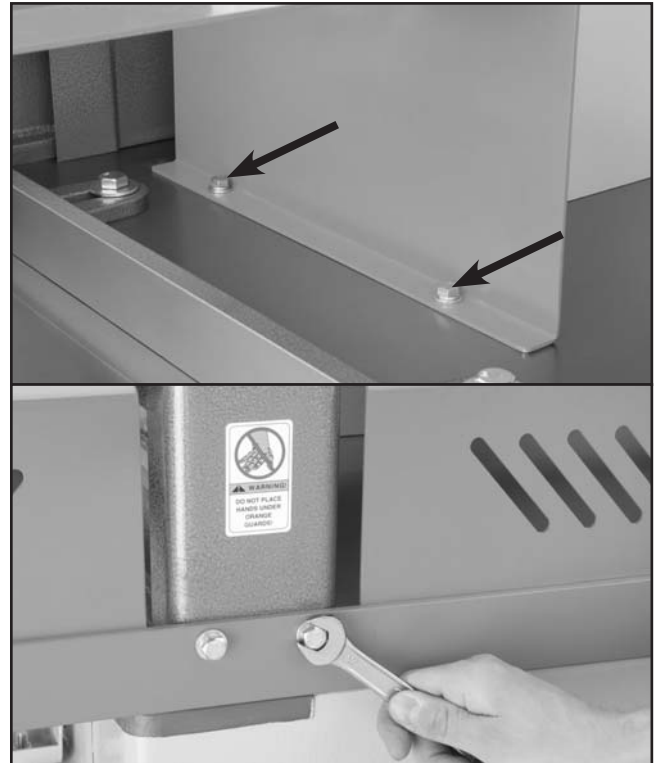

Figure 22. Installing guard with removed bolts.
2. Secure the safety guard to the saw with the bolts from their original locations, as shown in **Figure 22**.